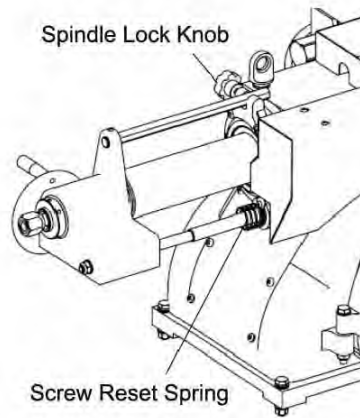

Fig18
22. When moving to the terminal position, nut separate from the screw, you should turn off the power switch, turn the spindle feed handwheel clockwise, so the screw and the nut can mesh each other again. Screw reset spring can do it, you can see fig.18.